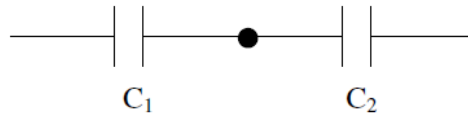

Figure 1: series combination
- 3- Wire the capacitors in series as shown in figure 1. Pay attention to the polarity of capacitors and the way they are connected.